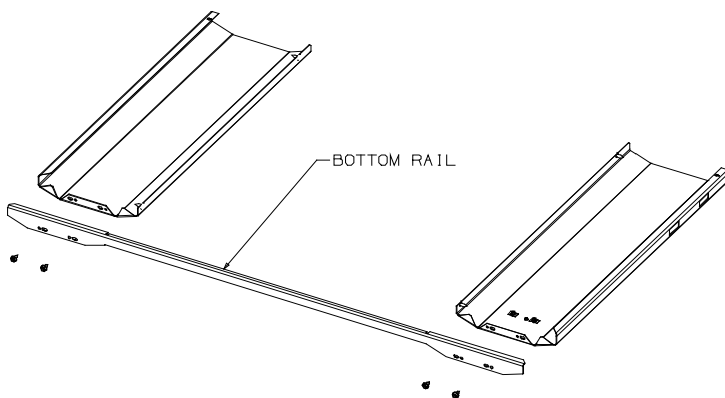

Fig 1.
- 2) Align the bottom flange of each side panel with the corresponding end of the bottom rail. Using the self-tapping screws provided, attach the bottom rail to the bottom flanges of the side panels. Only loosely tighten the screws. See Fig 1.